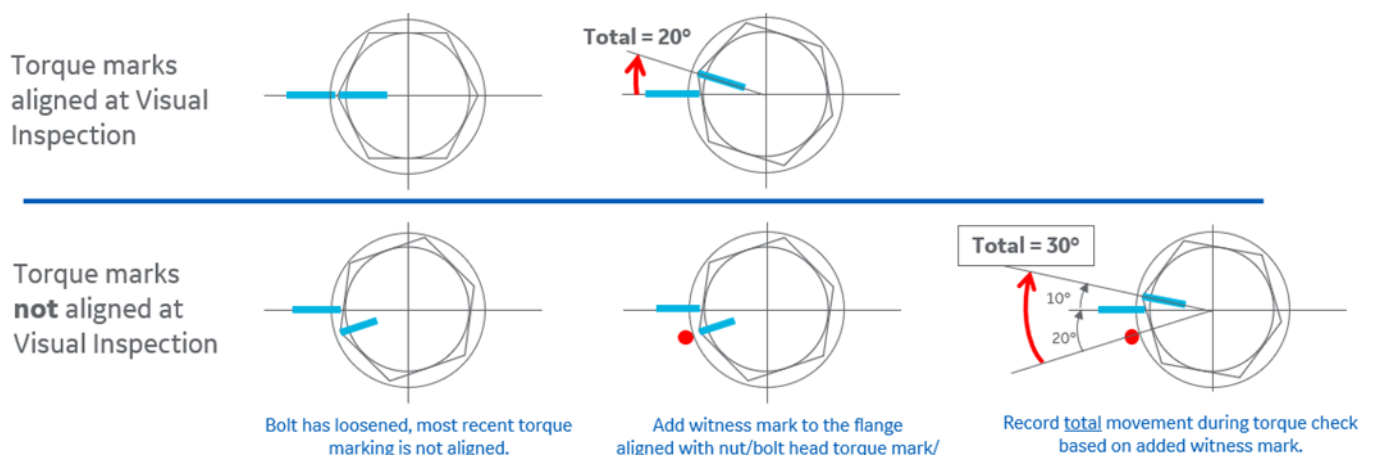

Figure 18: Torque marking – Record total fastener movement during torque check
- If most recent torque markings are not aligned, add witness mark to the flange aligned with previous torque mark on the nut/bolt head to record total fastener movement after torquing. See Figure 18 below as an example.